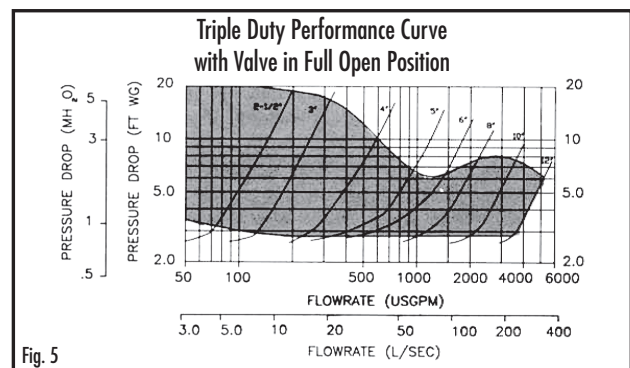

Fig. 5
6.3.4 On the Triple Duty Performance Curve (Fig. 5) locate the differential pressure obtained in Step 6.3.2 and project line horizontally across to intercept with Valve Performance Curve. Drop a line vertically down to read the flow rate at the bottom of the chart.
From the Triple Duty Performance Curve (Fig. 5), a 4 inch valve with 5.4 ft. pressure drop (1.65 m) represents a flow of 400 USgpm (25.2 l/s).